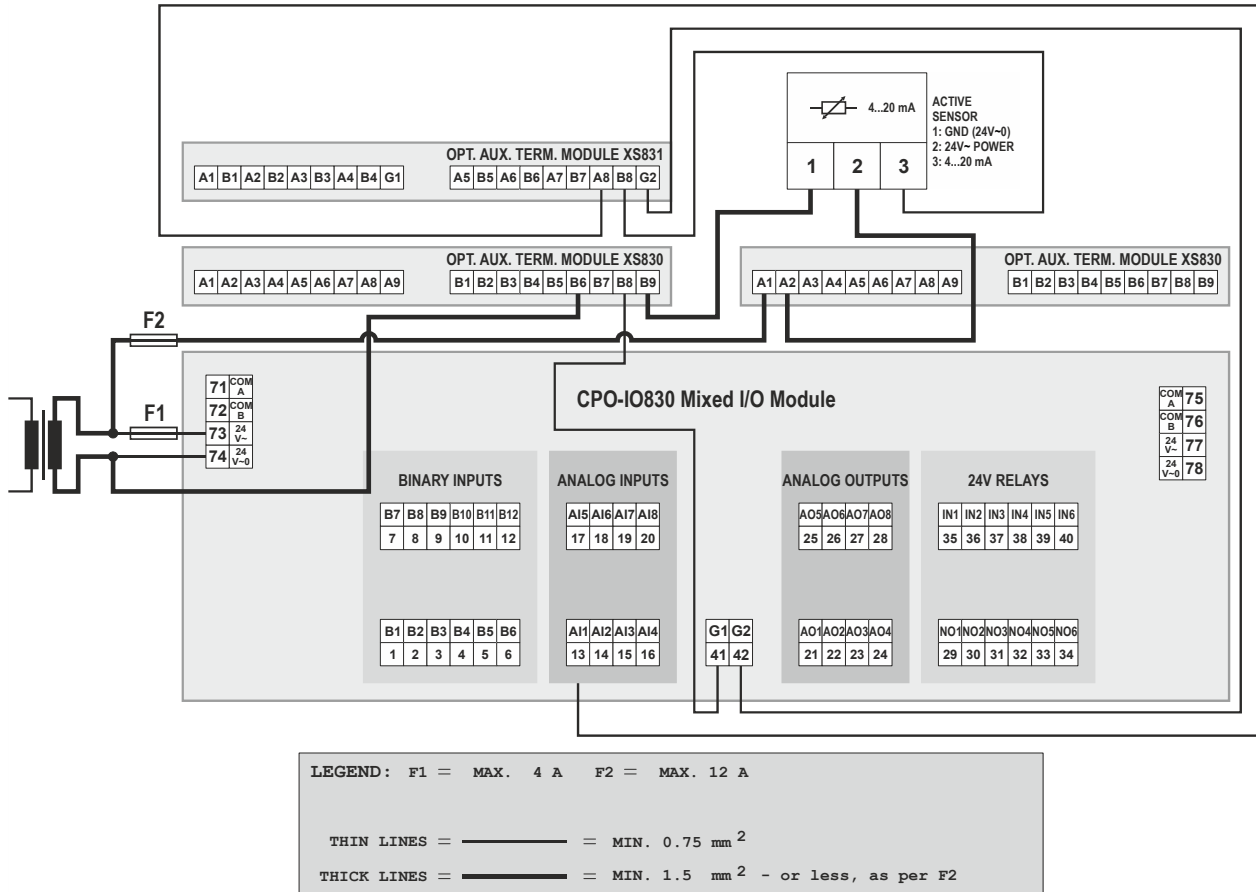

Fig. 66. CPO-IO830 Connection example (for current inputs)
- Two groups of four pairs of push-in terminals (A1B1, A2B2, ... A8B8, each with a 499Ω resistor) for converting 0...20 mA signals (max. load per resistor = 25 mA) into 0...10 Vdc signals, and one push-in ground terminal per group. See also Fig. 65 and Fig. 66.